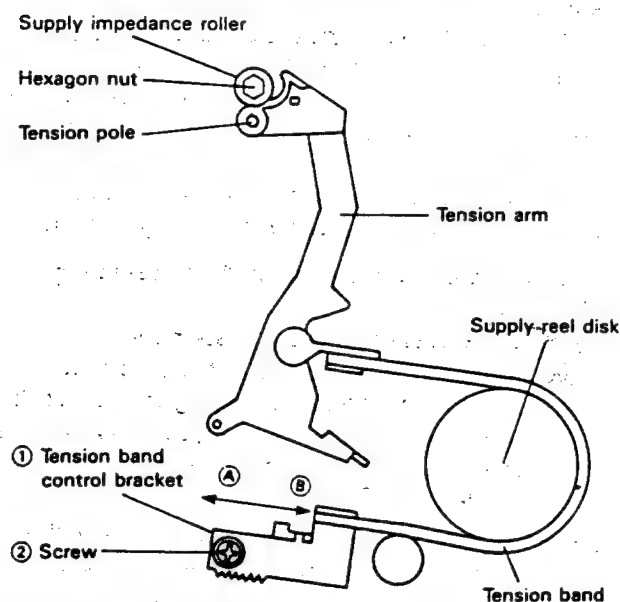

Figure 1-14.
• Position checking (Fig. 1-14)
3. The pole bases (see page 4; item 19 and 27.) operate to bring the tape outside the cassette housing and simultaneously the tension pole moves to the left, loading the tape. At that time (loading mode), check the position of the tension pole.